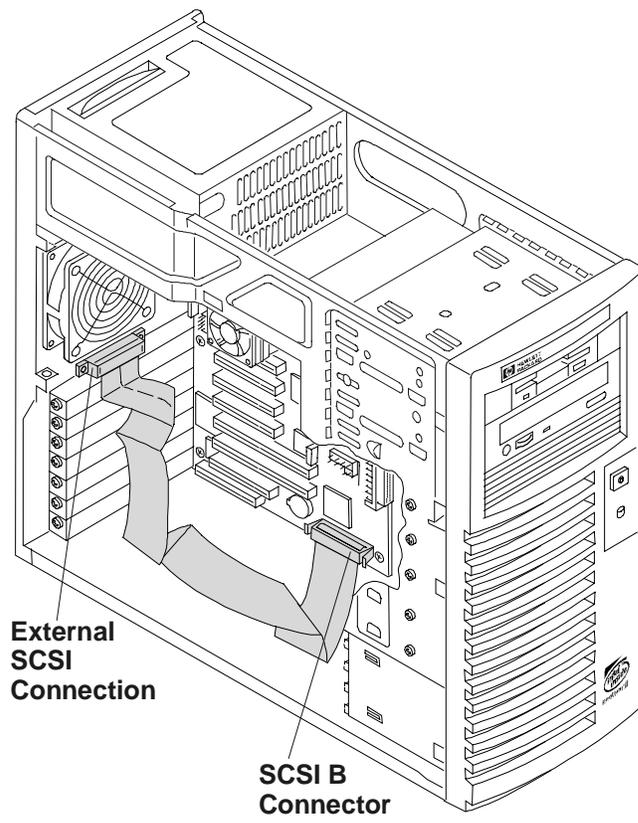

Figure 3-9. Threading External SCSI Cable
- Thread the cable from the SCSI channel B connector, along the bottom edge of the chassis toward the rear of the chassis. See Figure 3-9.